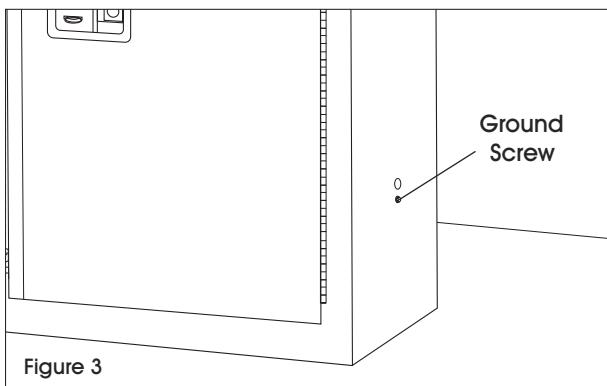

Figure 3
1. For exterior cabinet grounding, locate the safety cabinet's ground screw just below the green dot on the right-hand side. (See Figure 3)